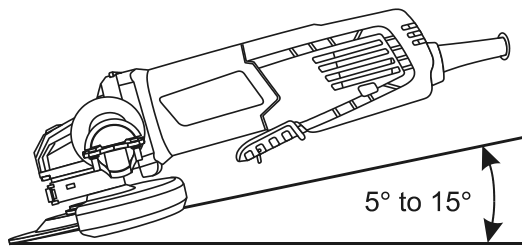

Fig. 6
- The efficient operation of the angle grinder begins by controlling the pressure and surface contact between the grinding disc and the workpiece. Flat surfaces are ground at an acute angle, normally between 5° and 15° (Fig. 6).